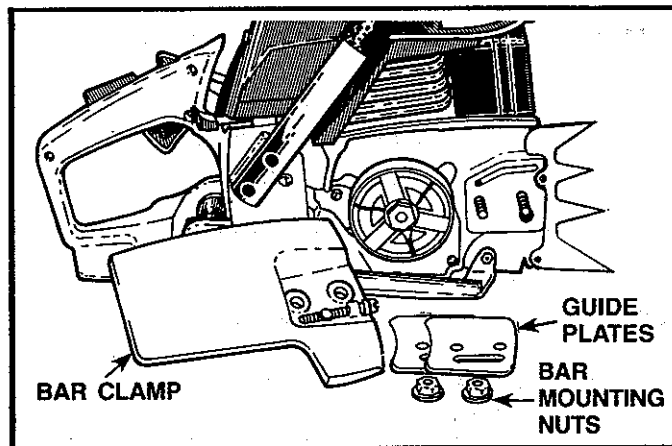

Figure 6
- Align the spur over the two holes on the bar clamp side of the saw. Figure 6.